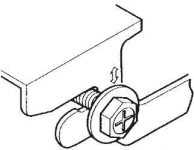

Fig.7
(5). Lift the unit and slide forward unit in place. (Refer to Fig.7)